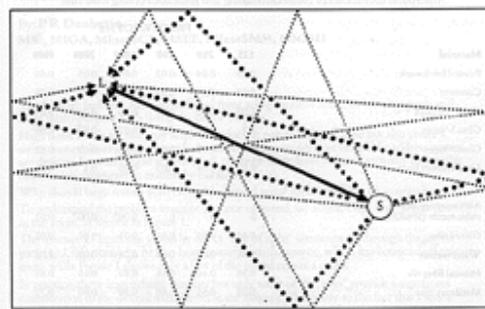

Figure 1.
To understand the problem imagine a source, say a hand clap or scream at point S in the room, as shown in Figure 1.
The listener 'L' hears the sound by direct "line of sight" transmission through the air via path (1). Unfortunately, he also hears sound from the source, which has bounced off one or more walls. Figure 1 shows only a few of the sound rays in a room.